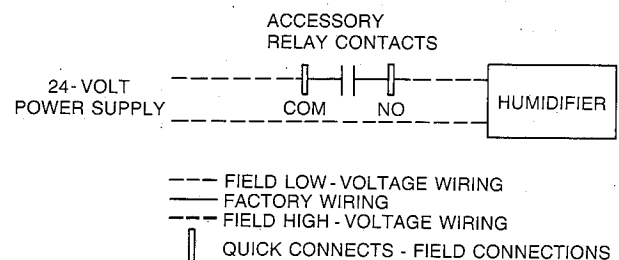

Fig. 11—Humidifier
11. Go to item 18.
NOTE: For 24-volt accessory hookup, see items 12 through 17 and Fig. 11.